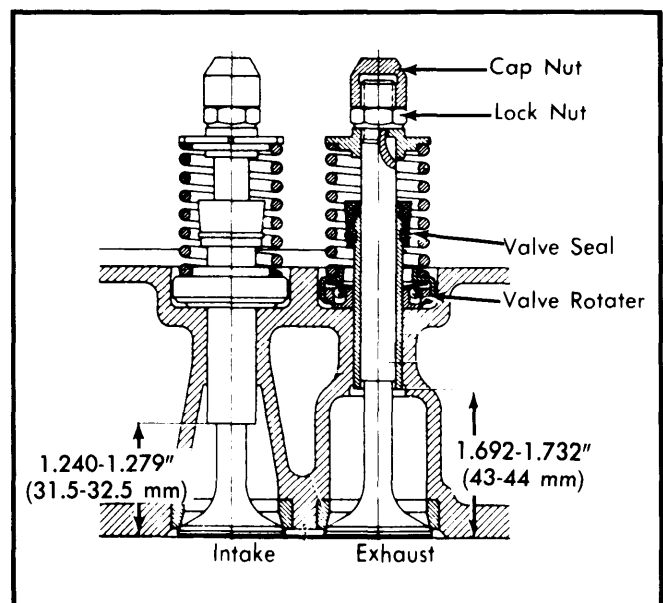

Fig. 7 Installed View of Valve Assemblies
3) Press in new guides from combustion side until specified distance is achieved. See Fig. 7. Check guide bores and ream for proper clearance as required.